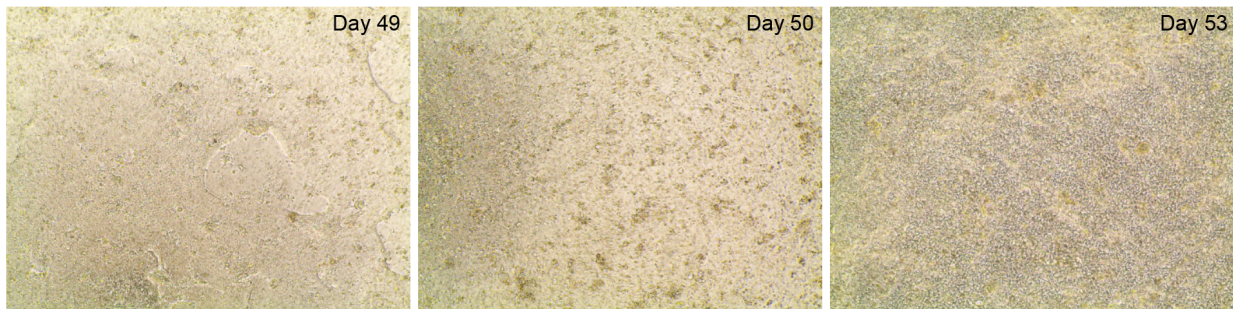

Figure 8: ALI induction. Plate cells in transwell on Day 47 and then remove the media in top chamber on Day 51.
- Incubate for 3 days. Cells are ready to use. (Fig.8)